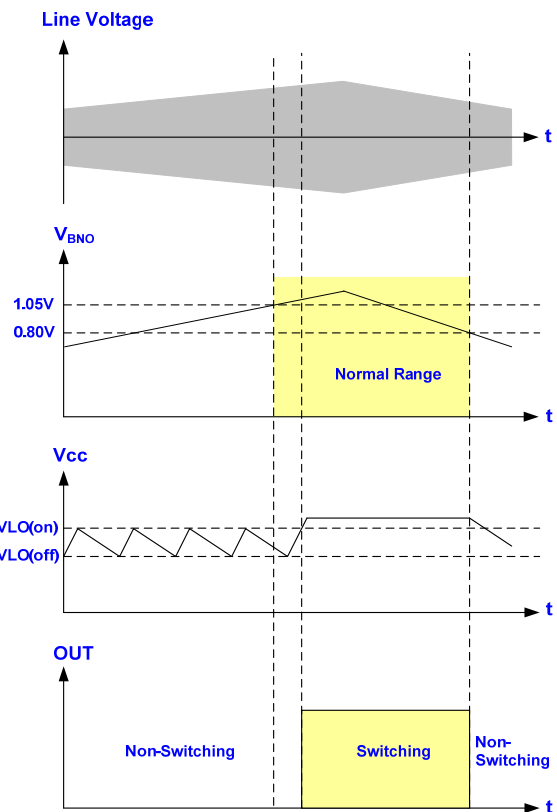

Fig. 18
The LD7904JGPN programmable to set the brownout protection point though BNO pin. The voltage across the BNO pin is proportional to the bulk capacitor voltage, referred as the line voltage. A brownout comparator is implemented to detect the abnormal line condition. As soon as the condition is detected, it will shut down the controller to prevent the damage. Figure 18 shows the
operation. When V_{BNO} falls below 0.80V, the gate output will be kept off even V_{CC} has already achieved UVLO(ON). It therefore makes V_{CC} hiccup between UVLO(ON) and UVLO(OFF). Unless the line voltage is large enough to pull V_{BNO} larger than 1.05V, the gate output will not start switching even when the next UVLO(ON) is tripped. A hysteresis is implemented to prevent the false trigger during turn-on and turn-off. Figure 18 shows the circuit.